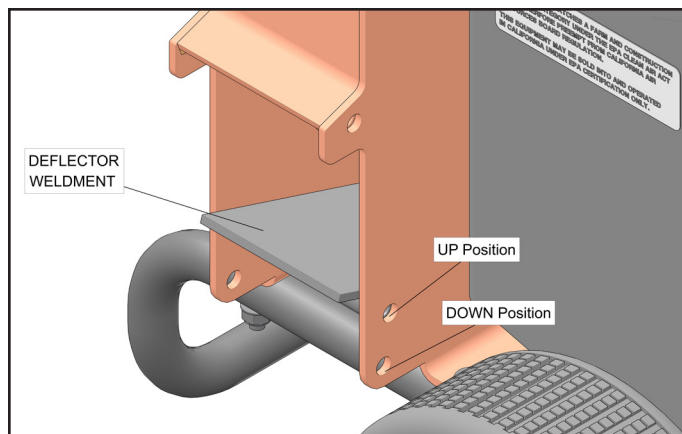

Figure 2.2, Deflector Weldment
1. Position the deflector weldment to align with the holes for the Up position.(see Figure 2.2).